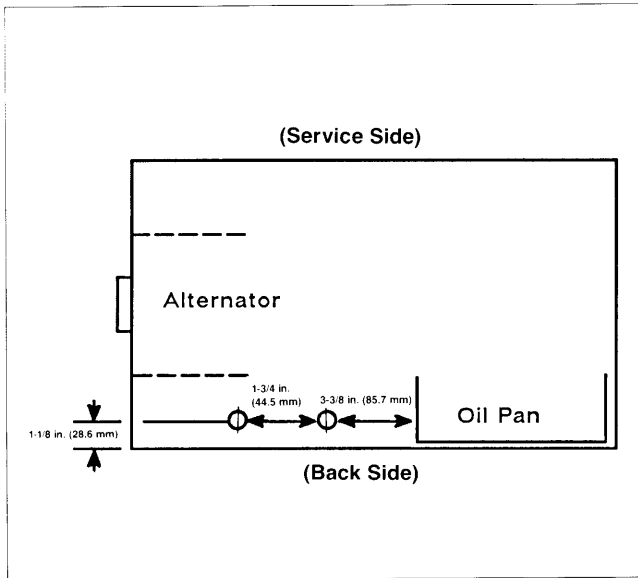

Figure 5. Gas Regulator Mounting Holes (Top View)
- The gas regulator must be attached to the mounting skid on the back side of the generator. To attach regulator, drill two 9/32 in. (7.1 mm) holes through bottom of skid in positions illustrated in Figure 5.